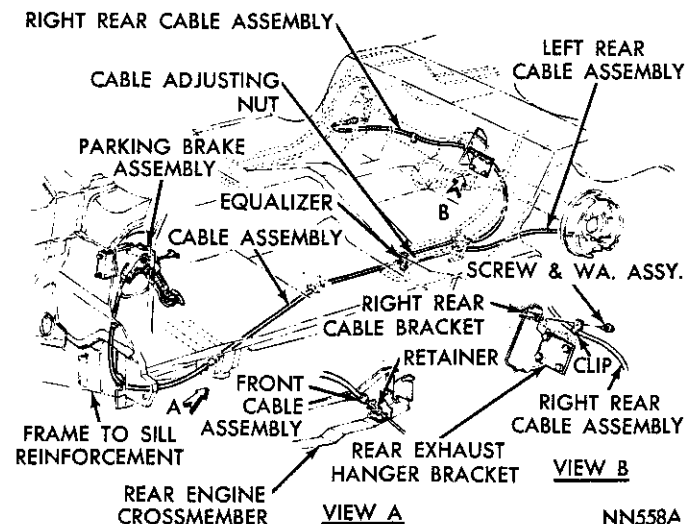

Fig. 1—Parking Brake Cable Routing (Challenger)
(1) Release parking brake lever and loosen cable adjusting nut to insure cable is slack, (Figs. 1 or 2). Before loosening cable adjusting nut, clean threads with wire brush and lubricate with grease.
(2) Tighten cable adjusting nut until a slight drag is felt while rotating wheel, loosen cable adjusting nut until both rear wheels can be rotated freely, then back off cable adjusting nut two full turns.
(3) Apply parking brake several times, then release and test to see that rear wheels rotate freely without dragging.
The independent rear brake cables are attached to an equalizer (Fig. 1). The front cable is adjusted at the equalizer.
- (1) Disengage front parking brake cable from equalizer bar. Refer to (Figs. 1 or 2).
- (2) Disengage cable from guide clip.
- (3) Using a screwdriver force cable housing and